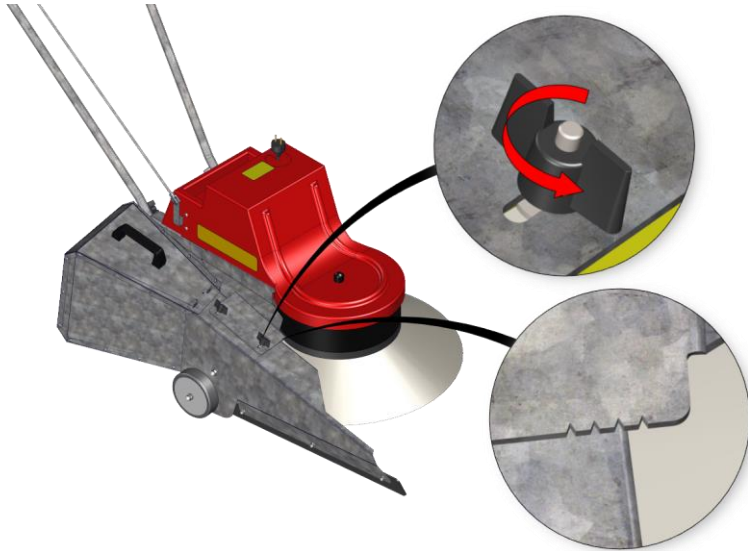

Fig. 62: Cleanbag adjustment
1. Slightly loosen the wing nuts in accordance with Fig. 62.